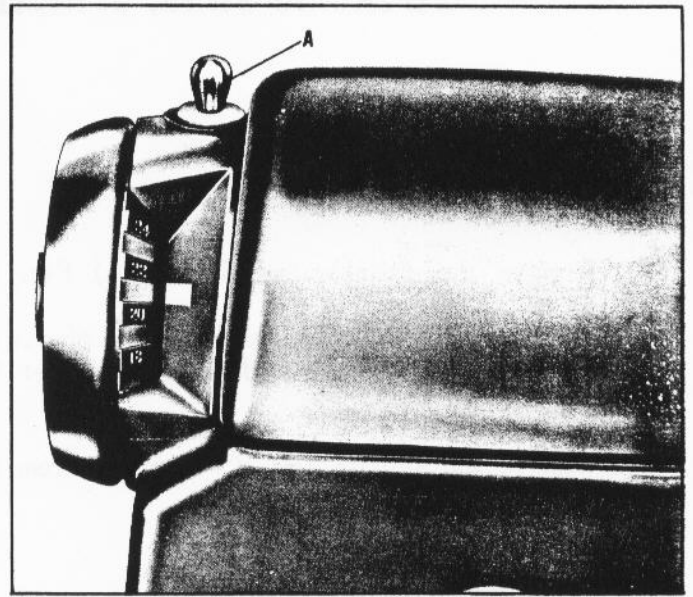

Fig. 9.
The index pin is controlled through a knob (A) Fig. 9, on top of the headstock. Moving the knob back and forth will engage or disengage the index pin in the slots in the pulley rim.